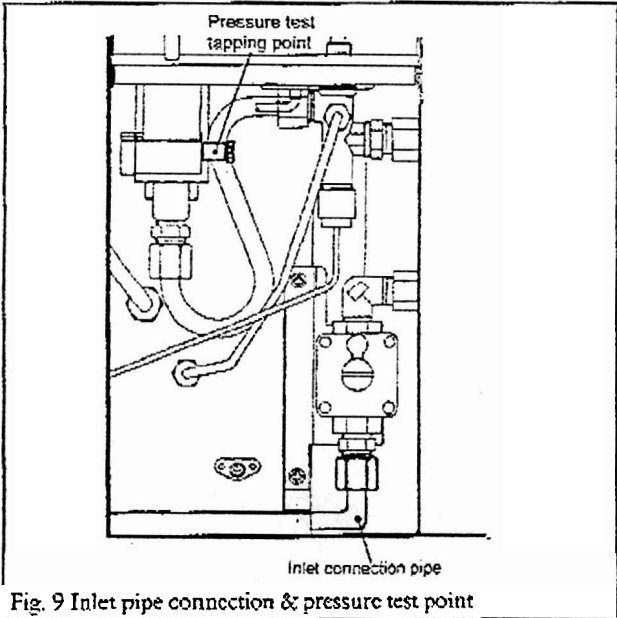

Fig. 9 Inlet pipe connection & pressure test point
- 10.4 Couple the gas inlet pipe to the connector below the regulator (see figure 9).
- 11.3 The burner manifold pressure is controlled by a built-in, non-adjustable regulator. The correct pressure range is shown in the table in section 2 of this manual. The manifold pressure should be checked at the pressure test point which is located on the thermostat unit (see figure 9). The pressure check should be made with the appliance burning, the gas control set at "On" and the thermostat control set at "Full". (Temporarily refit the control knobs for checking.)